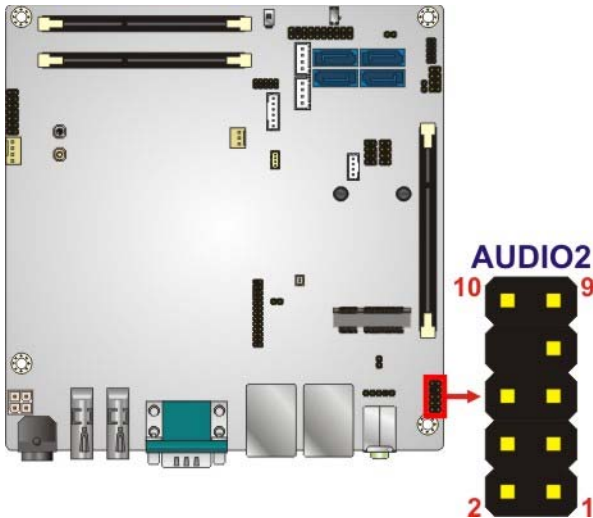

Figure 3-4: Audio Connector Location
- CN Location:** See **Figure 3-4**